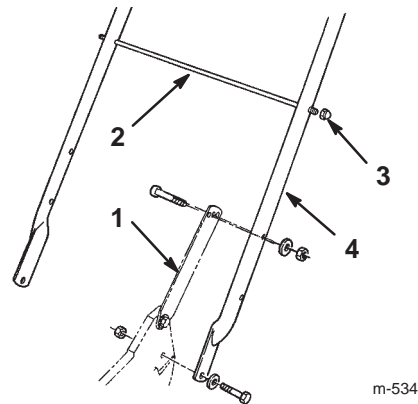

Figure 1
2. Secure the handle latches to the handle with 2 cap screws (5/16-18 x 1-1/2 in.), washers, and nylon insert locknuts (Fig. 1).
3. Slide the bag support rod through the second from the top mounting holes in the handle and secure each end with a cap locknut (Fig. 1).